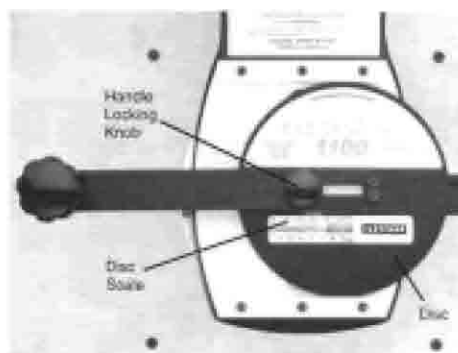

Figure 8
4. Set the off-set on the **Disc Scale** by slightly loosening the **Handle Locking Knob** on top of the **Disc** and sliding the **Disc** left or right until the **Disc Scale** reads 3" [70mm]. Tighten the **Handle Locking Knob**. See Figure 8.